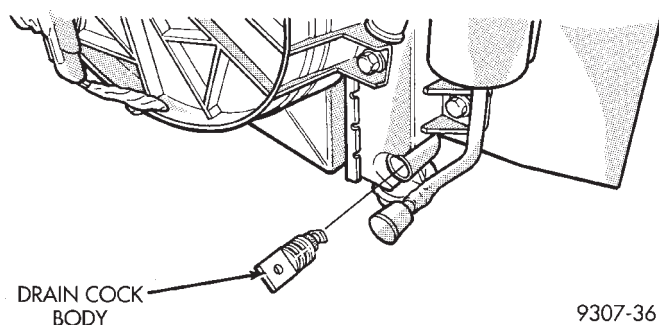

Fig. 9 Draincock Assembly
(1) Turn the draincock stem counterclockwise to unscrew the stem. When the stem is unscrewed to the end of the threads turn back 1/8 turn and, pull the stem (Fig. 9) from the radiator tank.